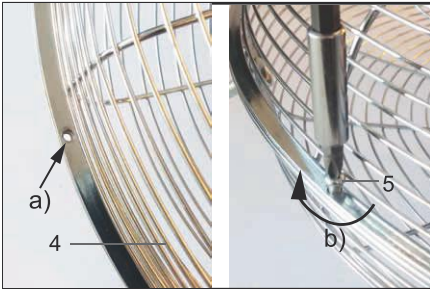

Fig.10: Mounting protective net
The holes of both halves must be on top of each other. See Fig. 10 a).
- First insert all Phillips-heads screws (5) through the holes provided in both halves of the net.
- Then tighten the screws clockwise in diagonal order, Fig. 10 b).